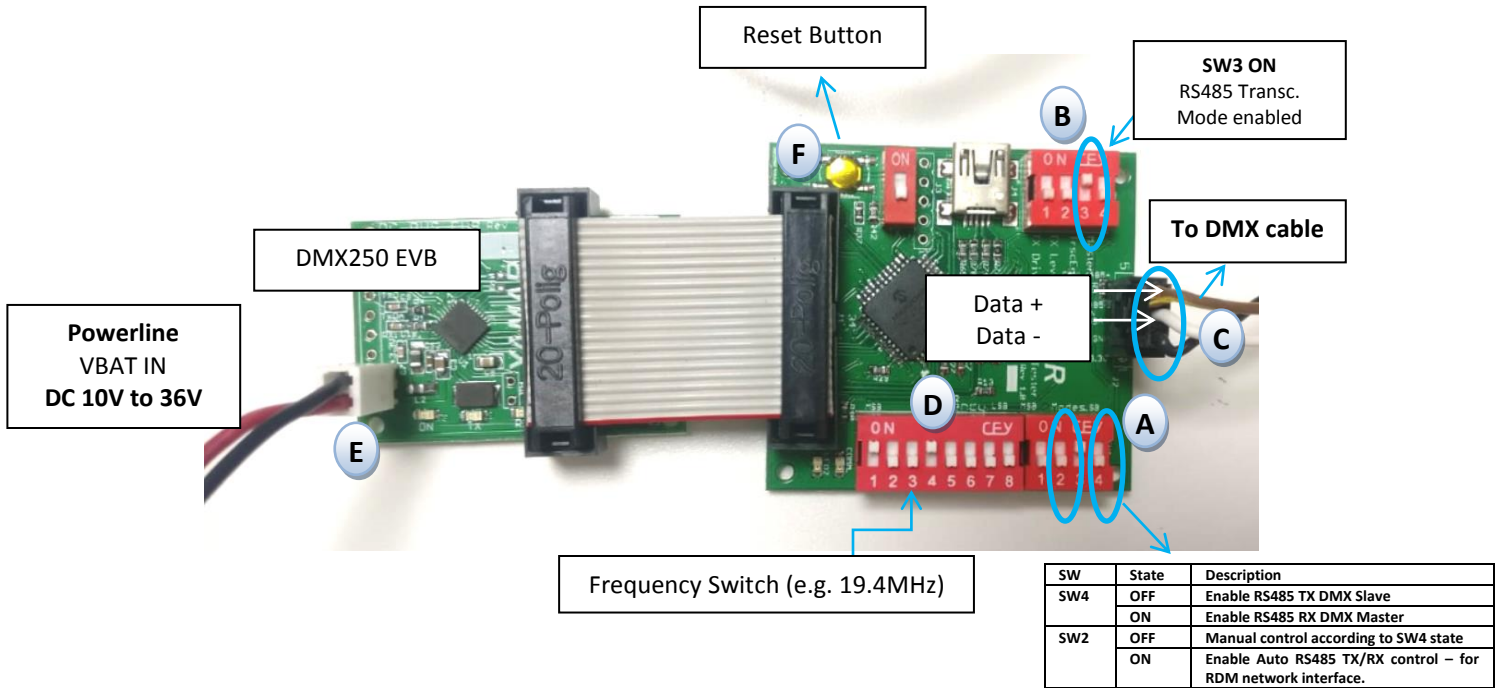

Figure 2 – DMX250 EVB and EVB Tester
1. Set the RS45 TX/RX mode using switch SW4 or SW2: (See Point **A** in Figure 2 above).
2. Set SW3 ON to enable working with the on-board RS485 Transceiver (See Point **B** in Figure 2 above).
3. Connect DMX cable DATA+ and DATA- and GND to the connector as show in Point **C** in Figure 2 above.
4. Select a carrier frequency (See Point **D** in Figure 2 above).
5. Connected the powerline (See Point **E** in Figure 2 above).